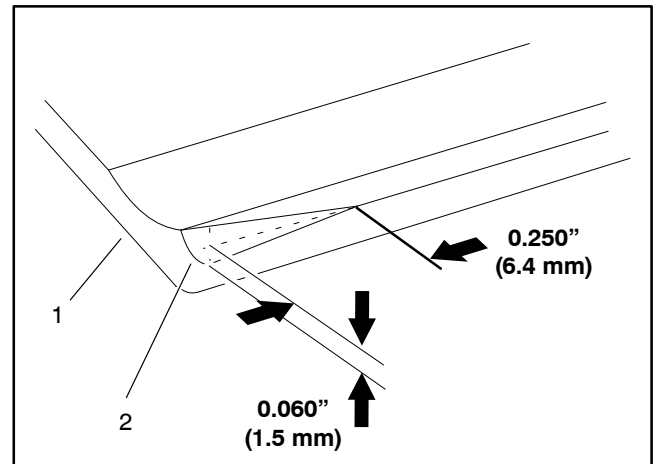

Figure 30
2. A lead-in chamfer is ground into all new bedknives (Fig. 30). The original chamfer should last for the first 40% of the bedknife service life. Check and re-grind the lead-in chamfer as necessary.